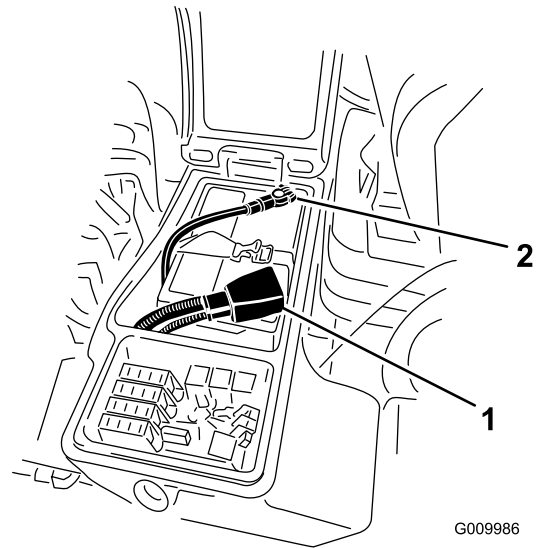

Figure 56
3. Remove the negative cable (black) from the negative (-) terminal and the positive cable (red) from the positive (+) terminal of the battery (Figure 56).
6. Install the positive cable (red) to the positive (+) terminal and the negative cable (black) to the negative (-) terminal of the battery (Figure 56).